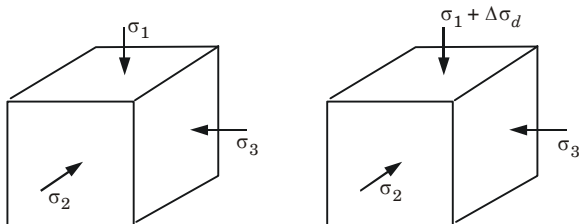

Fig. 5. Pore pressure under deviator stress.
- Let us consider the element of a saturated soil which is in equilibrium under three principal stresses σ_1, σ_2 and σ_3 , are shown in Fig. 5.